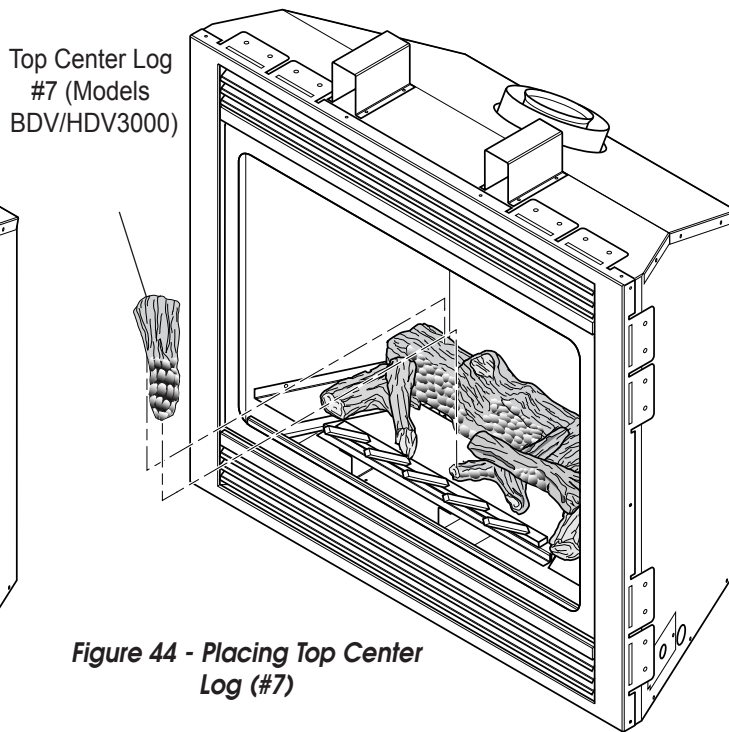
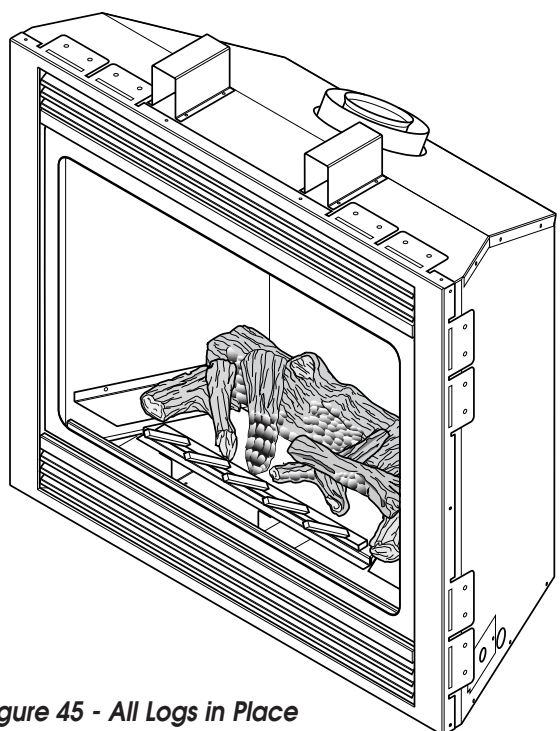

Figure 44 - Placing Top Center Log (#7)
Figure 45 - All Logs in Place
- For models BDV/HDV3000 place top center log #7 on rear log and bottom center log as shown in *Figure 44*. Logs should now look like *Figure 45*.